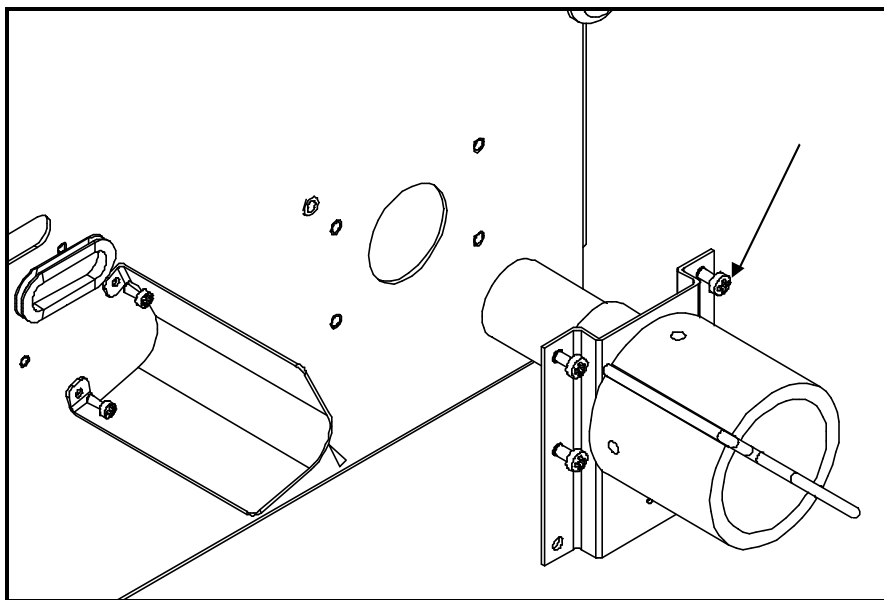

Figure 6-3 Takeup Motor Replacement
3. Open printer access door, and remove the four Phillips-head screws, as shown in Figure 6-3.